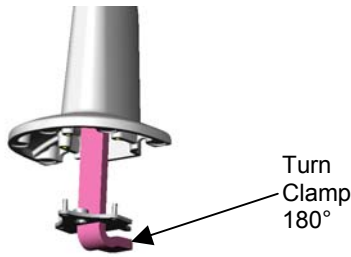

Figure 5. Rotate Base Clamp
2. Using the 3/16" hex wrench (provided), loosen the clamp bolt and turn the clamp 180 degrees (see Figure 5).